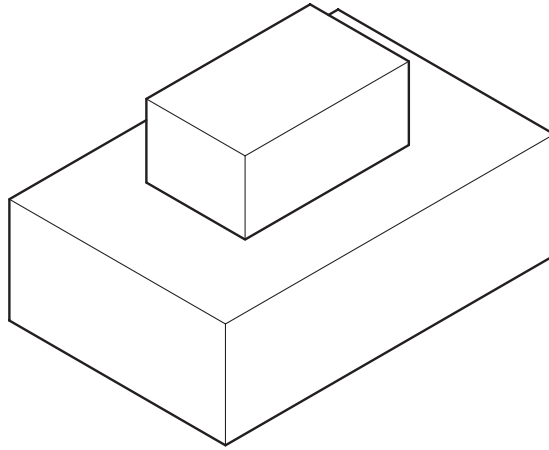

Fig. 9
- 5 Fig. 9 shows a wooden pattern which is being prepared to cast a block in aluminium alloy.